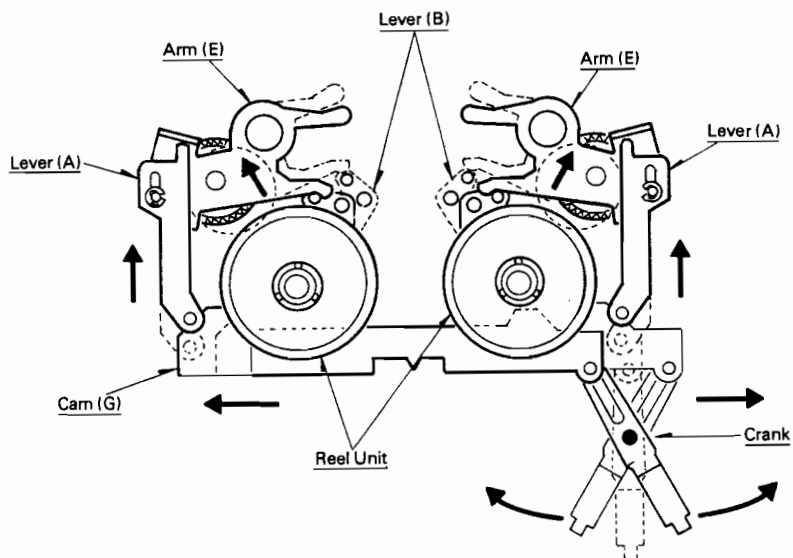

Fig. 17
1. The left-right movement of Crank causes right-left movements of Cam (G). Lever (A) is pushed by the tapered sections at both ends of the upper side of Cam (G) (Fig. 17).
2. Lever (A) causes Arm (E) to rotate and separate the idle gear on one side from the Reel Units, simultaneously making Lever (B) rotate and disengage Claws (A) and (B), which are designed to prevent the Reel Units from reversing (Fig. 17).